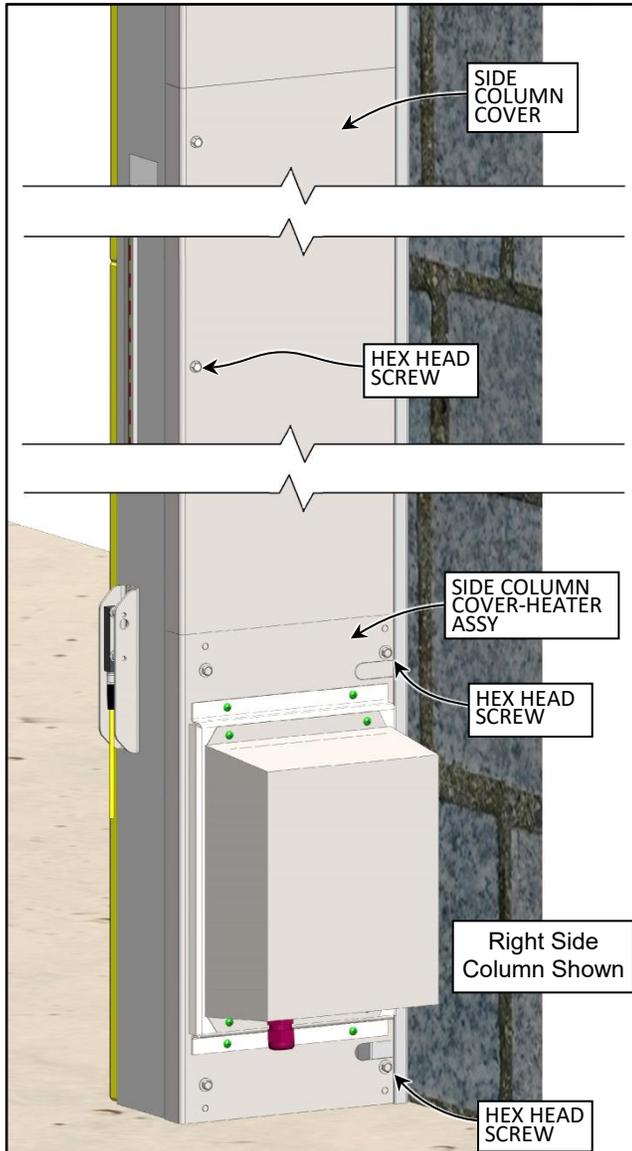

Figure 57
2. Remove the lower side column cover(s) behind the lower fiberglass assembly sections after removing the screws holding them in place. (See Figure 57)